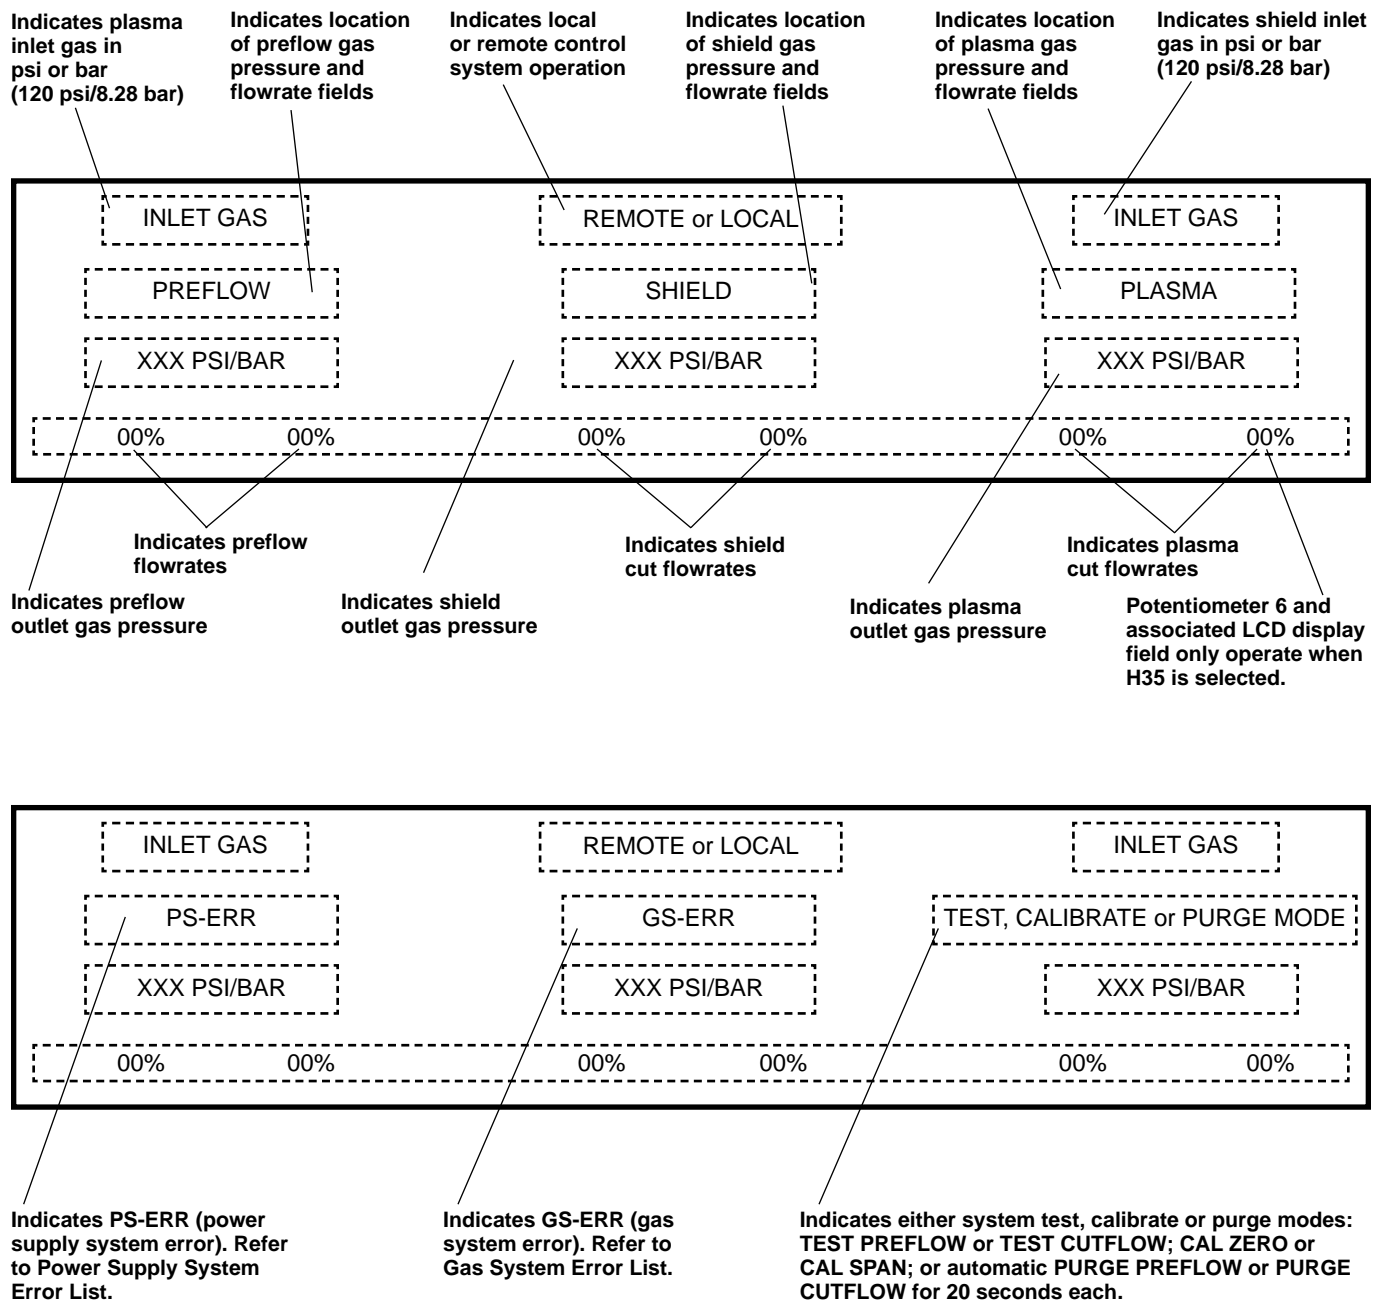

Figure 9 LCD Display
5. Also at initial startup, the gas lines will be automatically purged for 40 seconds total. The gas console LCD display, Fig. 9, will indicate PURGE PRELFOW for 20 seconds and then PURGE CUT FLOW for 20 seconds.
6. Ensure that the plasma and shield inlet gas supplies are available at 120 psi (8.2 bar) dynamic pressure on the gas console LCD display (Fig. 9).
- Set the test preflow flowrates (1) and (2) as specified in the *Cut Chart*.
- Set the shield test cut flowrates (3) and (4) and plasma test cut flowrates (5) and (6) as specified in the *Cut Chart*. Potentiometer (6) and associated LCD display field only operate when H35 is selected.
5. Ensure the POWER INTERLOCKS OK signal is returned to the CNC controller. If not check the **STATUS** LEDs on the power supply and check for plasma and gas system error messages on the gas console LCD display. Refer to Fig. 9 and the *Error Messages* list.
6. Also at initial startup, the gas lines will be automatically purged for 40 seconds total. The gas console LCD display, Fig.9 will indicate PURGE PRELFOW for 20 seconds and then PURGE CUT FLOW for 20 seconds.